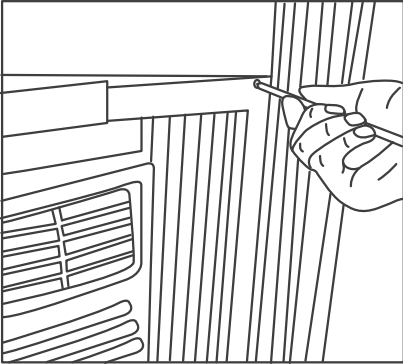
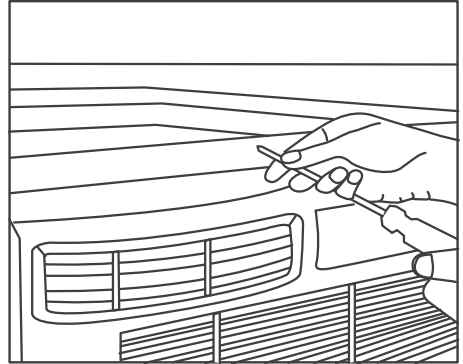

Fig.11
Fig.12
- Drive 1/2" screws into the top of the accordion panel frame and the top rail to securely attach the window air conditioner to the lower sash. (See Fig.11 Fig.12)